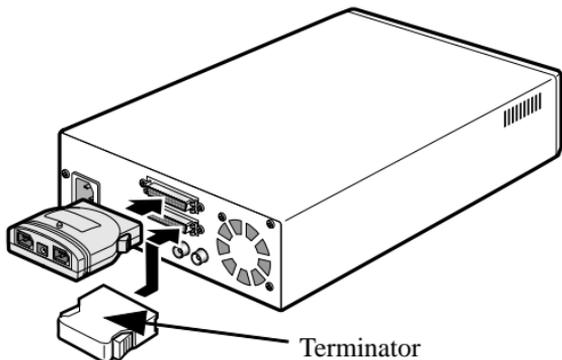

Fig. 3
Connect the FR1SX to a SCSI device, as Fig.3 shows. If you have a SCSI device with a Low-Density Centronics 50 pin or DB25 connector, you can order an OPTINAL Adapter. In such a case, refer to **Chapter 5-6 and 7.**
- 3) Attach an external active terminator to the SCSI device, as Fig.3 shows. If the SCSI device has an internal terminator and the switch, set it on state instead of attaching the external active terminator. Refer to the SCSI device manual if you are not sure how to terminate the SCSI device.